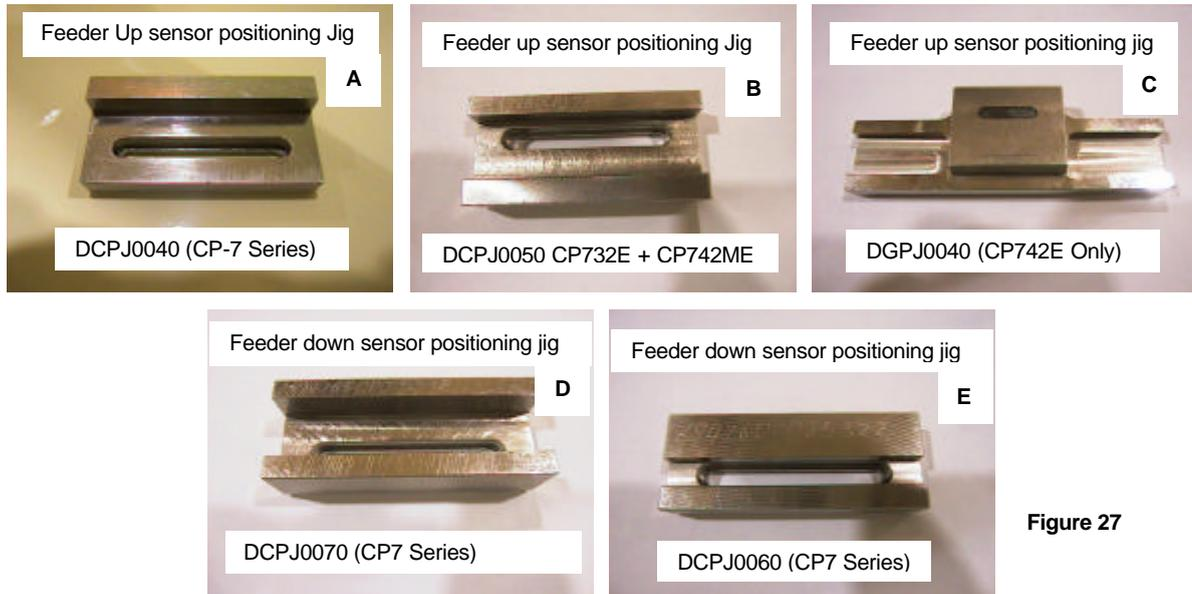

Figure 27
2. The jigs pictured in figure 27 are needed for sensor positioning adjustment.